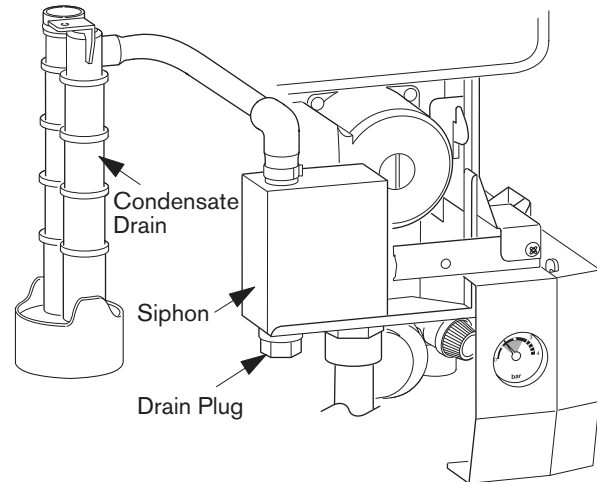

Fig. 58
- ▶ Unscrew and remove the siphon by releasing the jubilee clip. Refer to fig. 58.